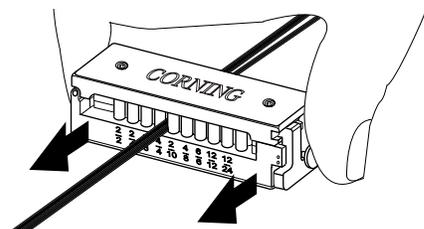

Figure 42
**7.30** If appropriate for your installation, divide the ribbon(s) using the Ribbon Splitting Tool (RST-000) (Figure 42).